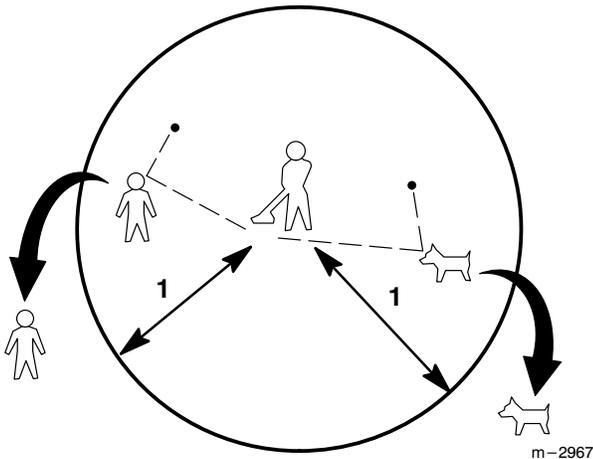

Figure 3
3. This Trimmer will throw objects and cut. Keep children, bystanders and animals outside a 50 ft. (15 m) radius from the operator and Trimmer (Fig. 3). Beyond the 50 ft. (15 m) there still may be a risk of injury to bystanders from thrown objects. It is recommended that bystanders wear eye protection. A thrown object can ricochet.